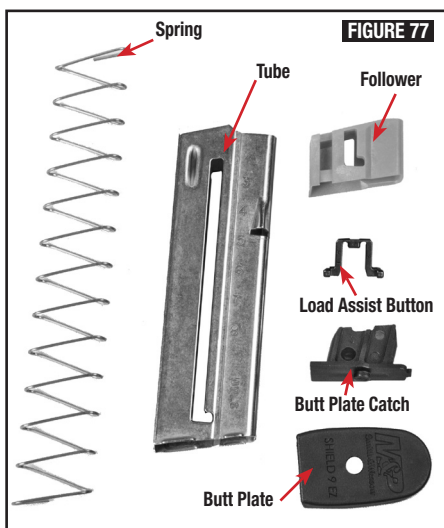

FIGURE 78
- Using a small tool like the empty chamber flag that comes with the pistol, depress butt plate catch through the hole in the butt plate. Slide the butt plate forward a little bit while holding the catch down (FIGURE 78).